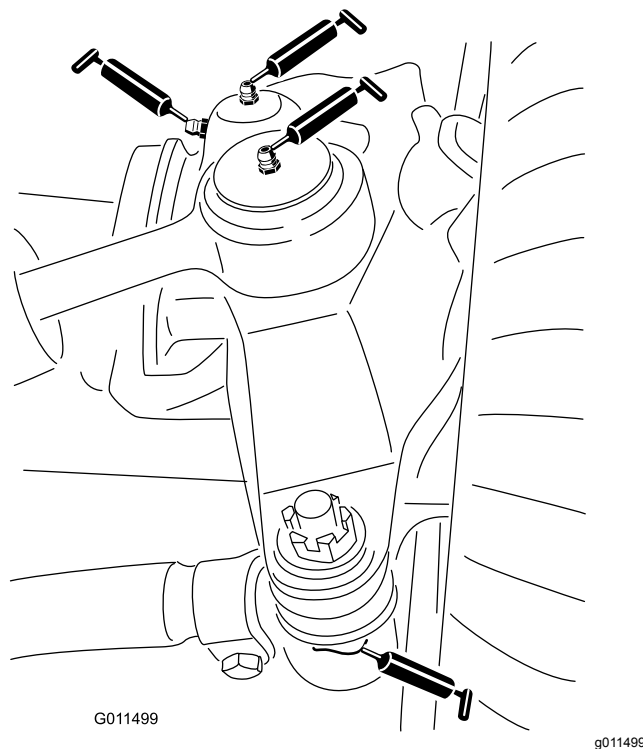

Figure 62
- Steering cylinder ball joints (2) (Figure 62)
- Tie rod ball joints (2) (Figure 62)
- King pin bushings (2) (Figure 62).